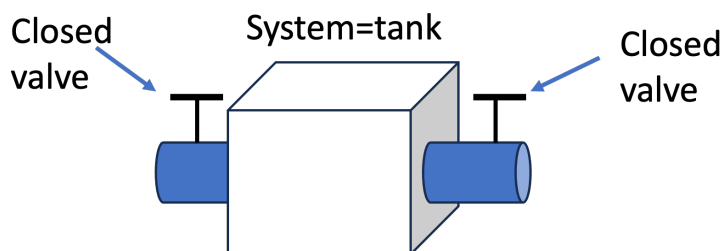

Fig. 8: Closed tank
- **Closed:** mass cannot exchange between the system and the surroundings, as in Fig. 8. Composite systems can be closed with open simple systems being part of the overall composite system.